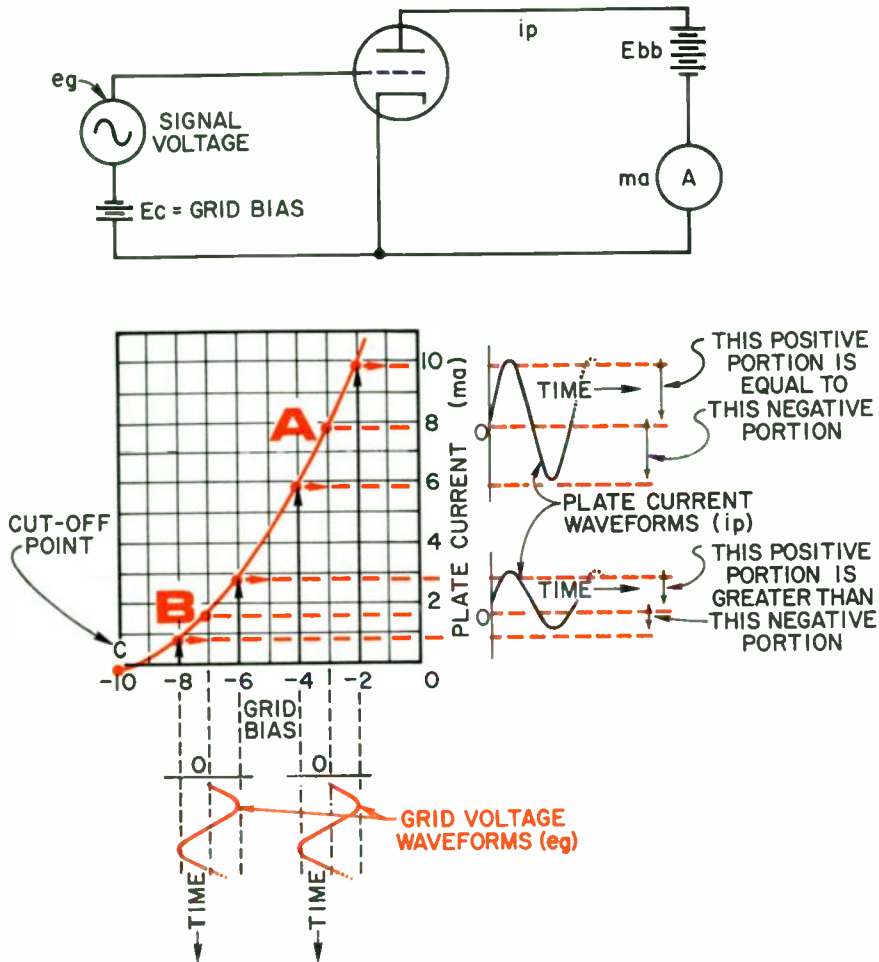

Figure 1 - The negative value of the grid bias on a particular characteristic curve determines the shape of the plate current waveform.
The effect of shifting the value of grid bias is illustrated in Figure 1. One value of bias allows the tube to operate on the linear portion of the $i_p - e_g$ characteristic curve. A different value of bias forces the tube to operate on the nonlinear portion of the curve. When the operating bias is at point A (-3 volts) the grid-voltage variation is within the limits of the linear portion of the characteristic curve. This allows the plate current to faithfully reproduce the grid-voltage waveform. When the fixed bias is increased to point B (-7 volts) the amplitude of the output waveform is considerably distorted. The extent of this distortion of the plate current curve depends upon the actual biasing point of the tube and the amplitude of the grid signal voltage.
The point on the zero axis intersected by the characteristic curve (point C in Fig. 1) is commonly known as the cutoff point. An amplifier biased to cutoff functions as a diode rectifier because only alternate half cycles are reproduced in the output circuit. When an amplifier is biased well beyond cutoff and is driven with an excessively large input grid voltage, only that part of the grid-voltage waveform extending into the operating region of the characteristic curve is reproduced in the output. The input signal is thus distorted in the output because only a small portion is amplified.
16). The curve for V1 is similar to the plate current curve for bias point B shown in Figure 1. The curve for V2 is also identical, except that it is inverted. It is inverted to show that the plate current of V2 is decreasing at every instant that the plate current in V1 is increasing. This inverting of one of the characteristic curves also shows the 180° phase relationship that exists between the two tubes, while the output curves represent the *currents that appear across the secondary*.